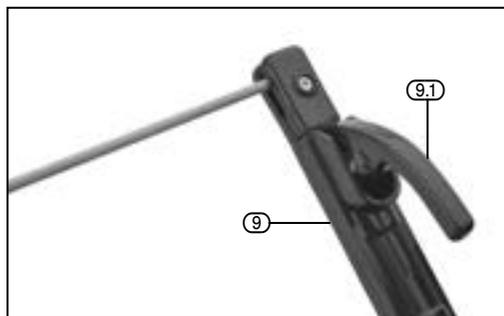

FIG. 3
8.2 MMA/ARC MACHINE OPERATION – FIG.3
- Insert the electrode suitable for the application into the electrode holder (9) while pressing lever (9.1).